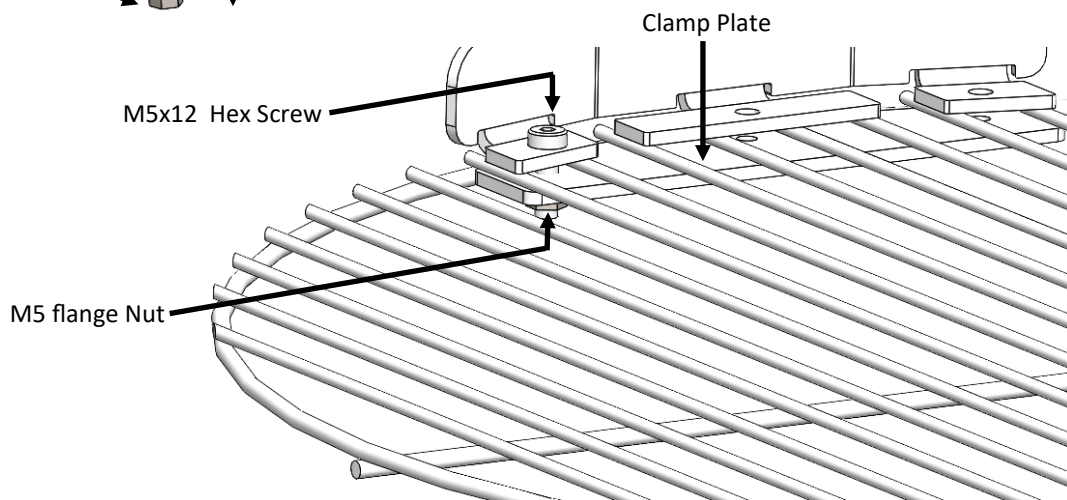

Fig. 3.
Step 3 : Place the clamp plate on the underside of the round grill and insert one of the M5x12 Hex key headed screws through holes in the handle bracket and clamp plate, affix one of the M5 flanged nuts on the underside, therefore clamping the grill to the handle assembly. Repeat for the remaining fixings, fully tighten with spanner and hex key supplied. See Fig. 3.